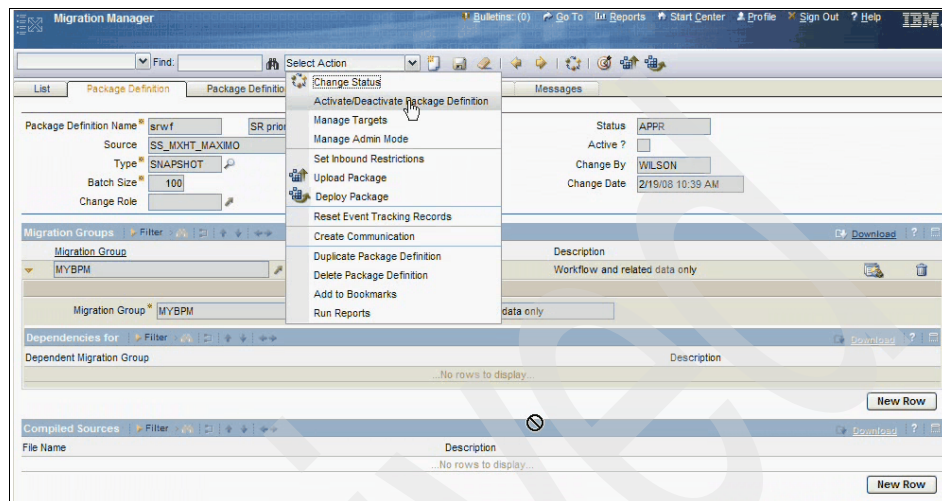

Figure 8-28 Activate package definition
12. We now have to activate the package definition to be able to create a package for distribution. From the Select Action menu select **Activate/Deactivate Package Definition** to activate the package definition (see Figure 8-28).